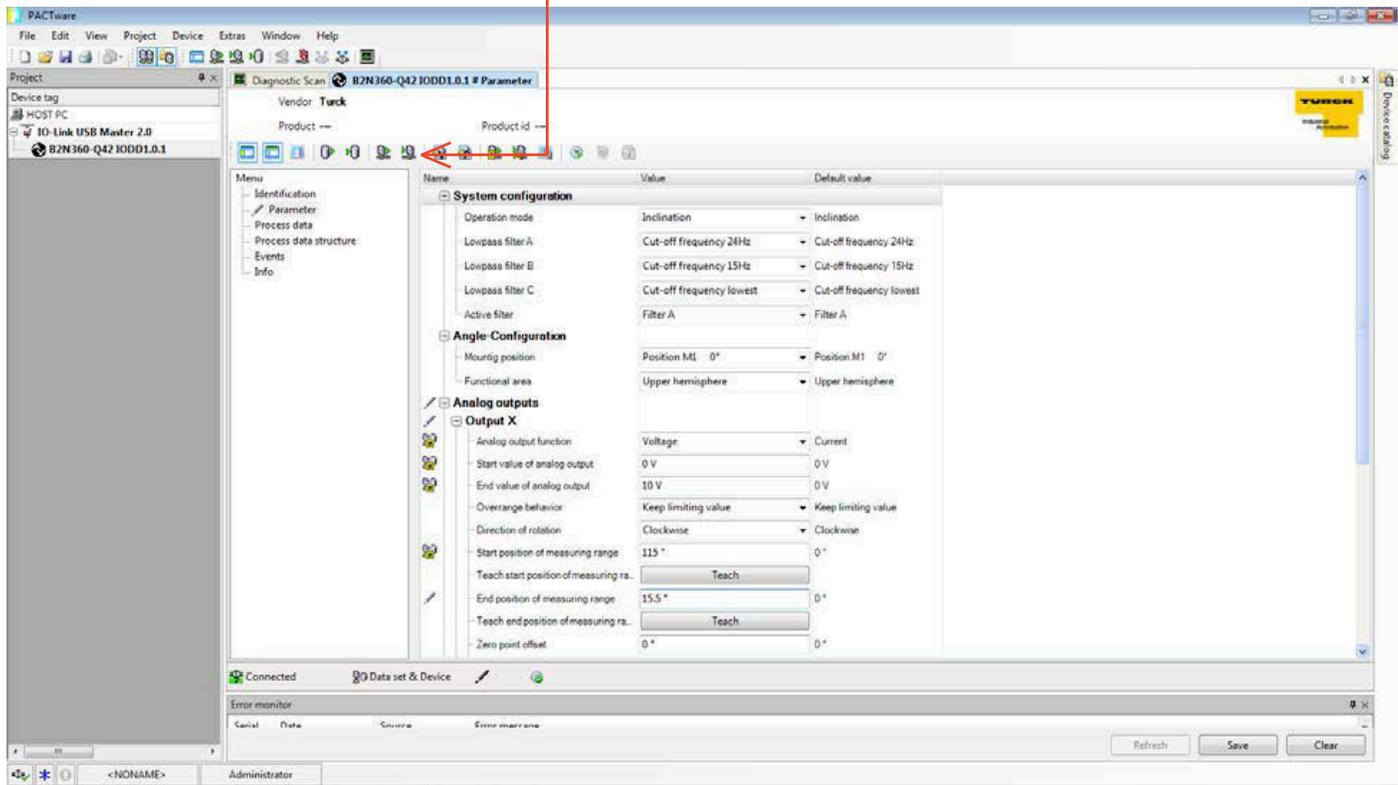

Figure 9
12) Once the parameters have been changed, click on the icon "Write to Device(Download)". The parameters will be stored to the device. (See Figure 9)